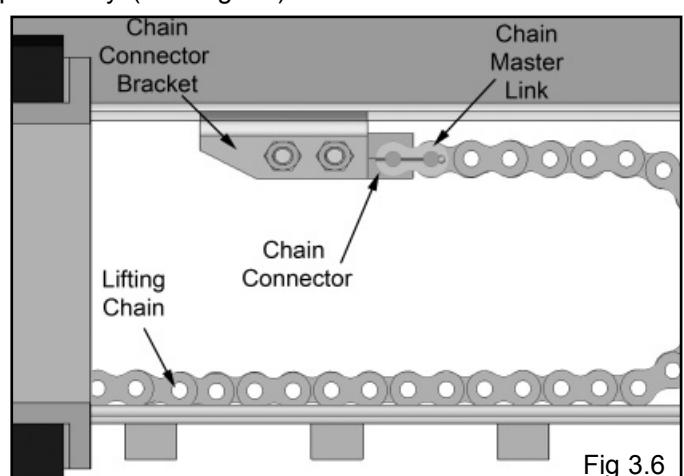

Fig 3.6
7. Install the Chain Connector into the Chain Connector Bracket. Insure that the Chain Connector is installed with the Hole for the Chain Master Link offset as shown previously. (See Fig 3.6)